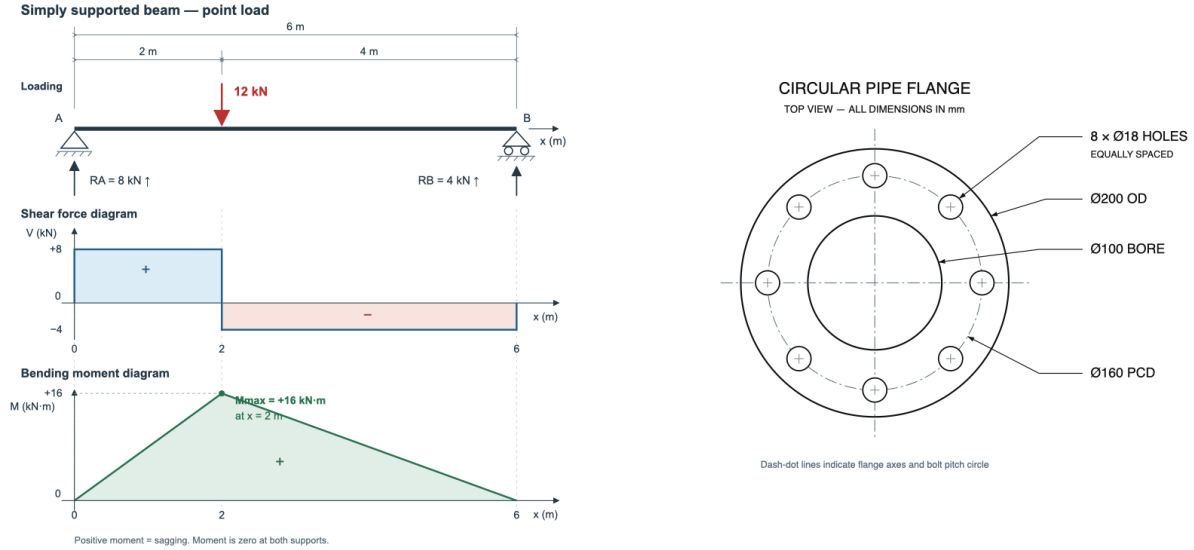

Figure 2: Left: shear and bending-moment diagrams with correct reactions and maximum moment. Right: flange with pitch circle, centrelines and leader dimensions.
- **Numerical correctness.** Beam reactions  $R_A = 8$  kN,  $R_B = 4$  kN and  $M_{\max} = 16$  kN·m for a 12 kN load at 2 m on a 6 m span are exactly right, and the shear and moment diagrams are drawn to those values (Fig. 2). Stair arithmetic is right ( $14$  risers  $\times 180 = 2520$ ;  $13$  treads  $\times 260 = 3380$ ) and the profile path contains exactly  $14$  vertical and  $13$  horizontal segments. The plate’s baseline dimensions ( $12/75/138/150$  and  $12/50/88/100$ ) are consistent with the requested hole and slot positions.